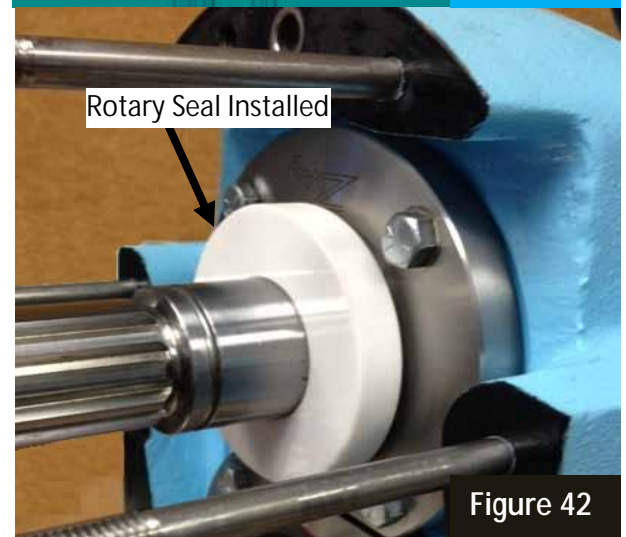

Figure 42
2. Install rotary seal. Take care to align notch in back of rotary seal with shaft drive pin, Figure 42.